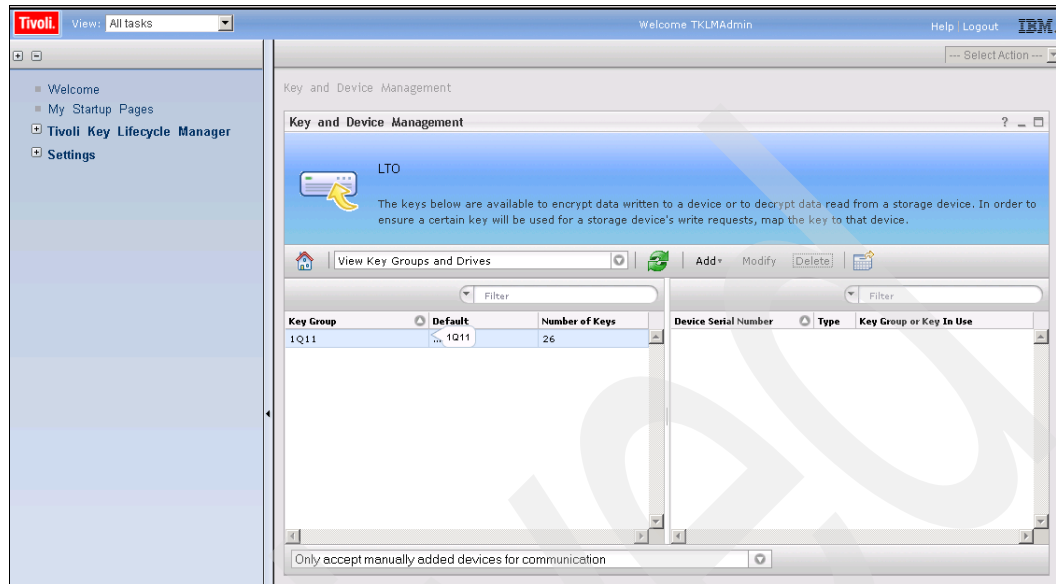

Figure 9-53 LTO key group successfully deleted
5. If the LTO key group deletion is successful, it is removed from the list as shown in Figure 9-53.